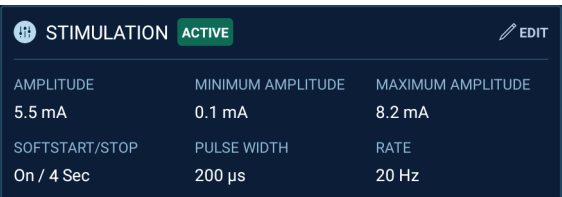

Figure 34. Stimulation panel when stimulation is active
- When stimulation is active, the dashboard will also show a green active indicator on the Stimulation panel (Figure 34).